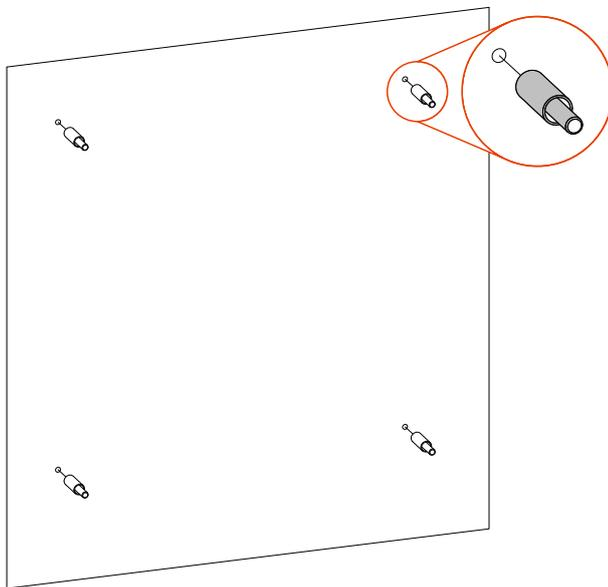

Figure3-5 Install the expansion bolts
Step 3 As shown in Figure3-5, install the equipped four expansion bolts M10*80 into the installation holes on the wall.